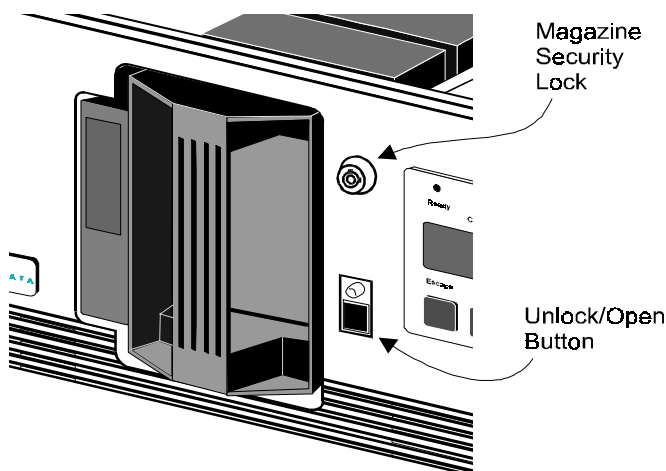

Figure 3-31 Magazine In Place
- The Magazine Security Lock must be unlocked, using the key supplied with the module. Refer to Figure 3-31. When the Magazine Security Lock is locked, the **Unlock/Open** button has no effect. If the module is installed in a reasonably secure environment, you may elect to leave the Magazine Security Lock in the unlocked position.